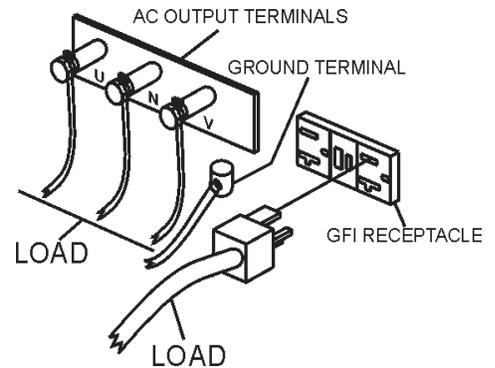

Figure 44. UVW Terminal Lugs (Load)
2. Connect the load to the UVW terminals as shown in Figure 44. These terminals can be found on the output terminal panel, (see page 32 Figure 14 for description and usage of receptacles). To gain access to the output terminals lift the UVW cover. Tighten terminal nuts securely to prevent load wires from slipping out.